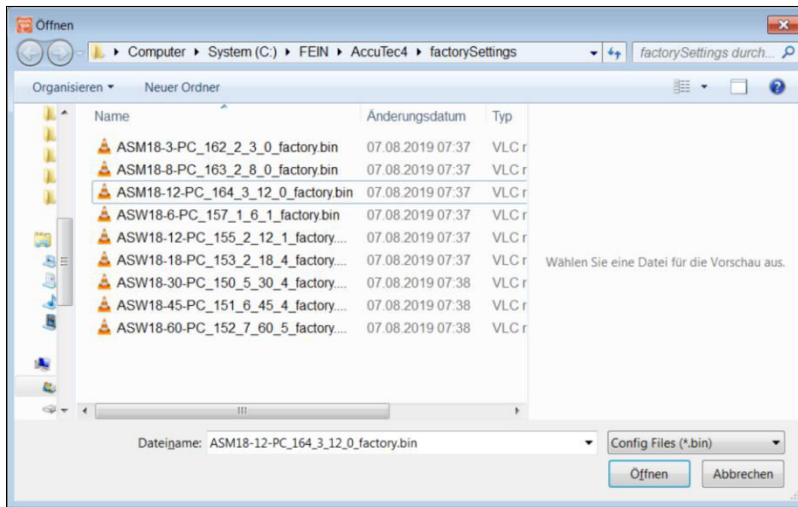

Figure 8
*A window opens in which the default settings file specific to the connected machine is displayed in the "Dateiname" field (see Figure 8).*